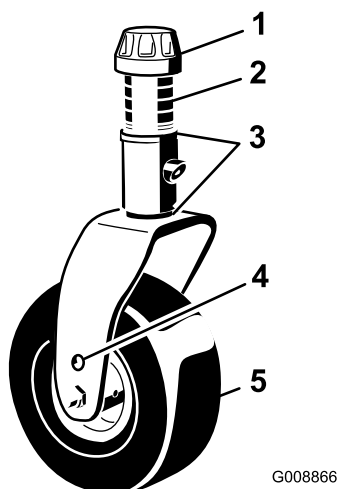
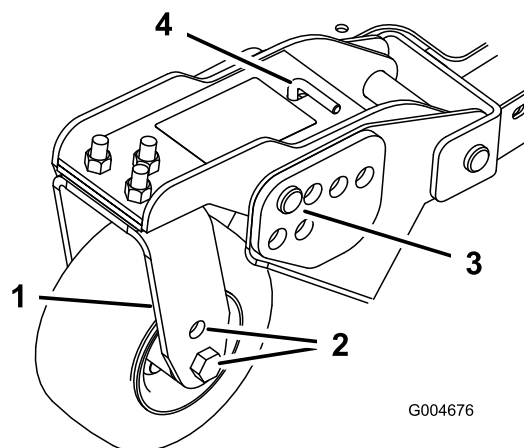

Figure 25
Figure 27
1. Position the caster-wheel axles in the same holes in all of the caster forks (Figure 25 and Figure 27).
2. Remove the tensioning cap from the spindle shaft and slide the spindle out of the caster arm (Figure 25).
6. Remove the hairpin cotter and clevis pins from the caster-pivot arms (Figure 27).
7. Rotate the tension rod to raise or lower the pivot arm until the holes are aligned with the selected height-of-cut bracket holes in the mower-deck frame (Figure 27 and Figure 28).